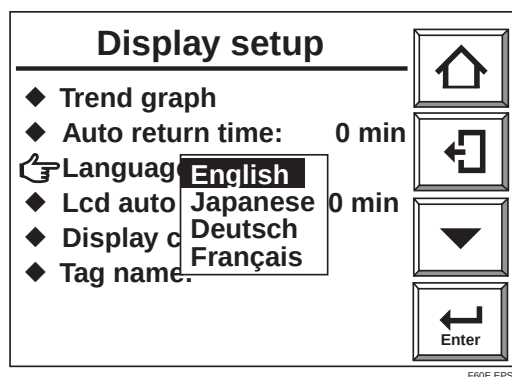

Figure 10.7 Selecting the Display Language
- 3) Select [Language] and the dropdown selection (Figure 10.7) allows you to select the desired language.